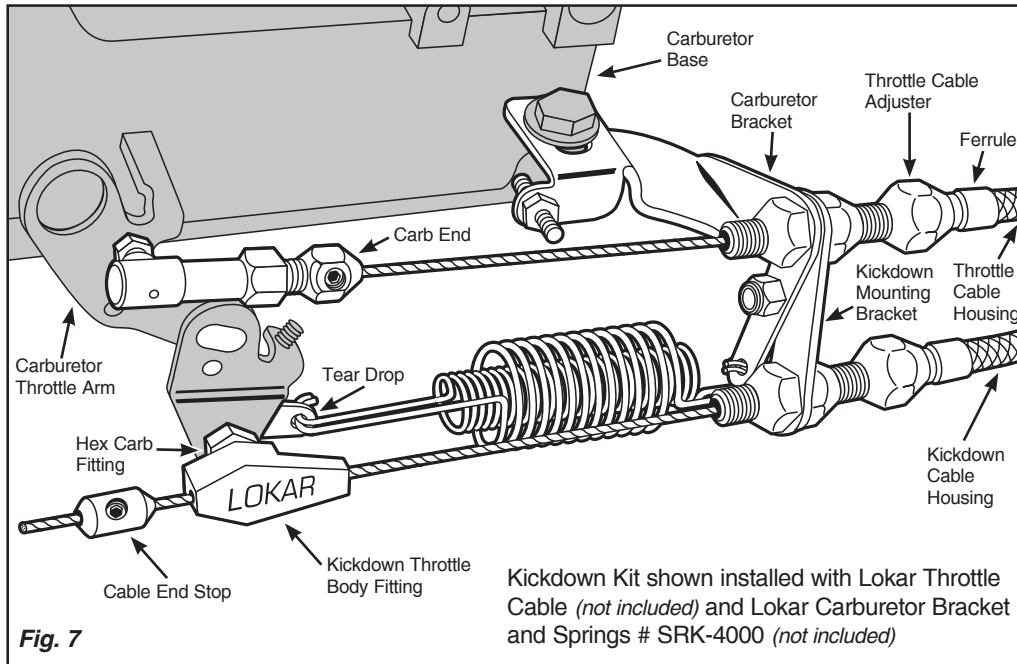
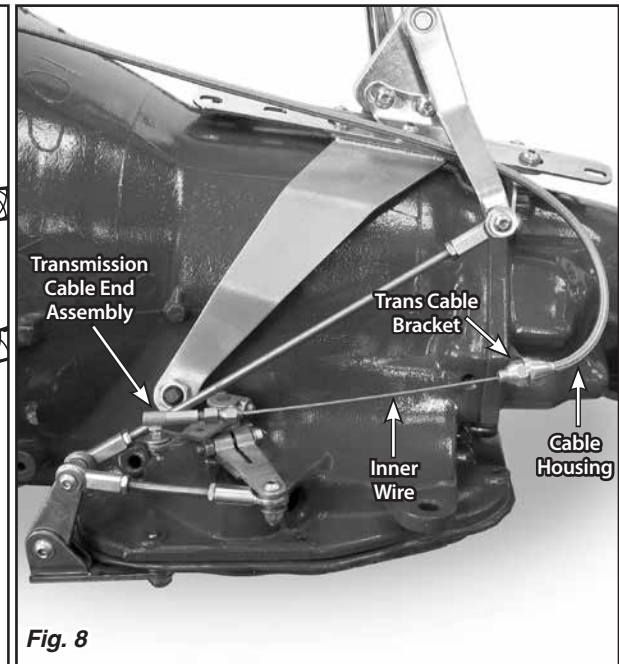

Fig. 7
Fig. 8
Step 7: The tear drop (not included, part of SRK-4000 Carburetor Bracket and Springs) will be attached to the carburetor throttle arm by the hex carb fitting. Separate the hex carb fitting from the kickdown throttle body fitting. Install the hex carb fitting and the tear drop onto the carburetor throttle arm as shown in Fig. 7. Hook the springs to the tear drop and tighten the nylock nut on the hex carb fitting. Then, back the nylock nut off just enough that the tear drop can pivot freely.
Final installation should look like **Fig. 7** and **Fig. 8**.